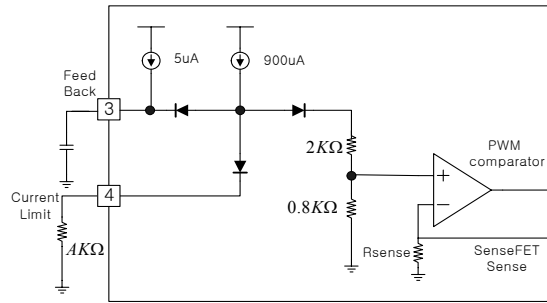

Figure 14. Peak current adjustment
8. Adjusting Current limit function: As shown in fig 14, a combined 2.8kΩ internal resistance is connected into the non-inverting lead on the PWM comparator. A external resistance of A on the current limit pin forms a parallel resistance with the 2.8kΩ when the internal diodes are biased by the main current source of 900μA.